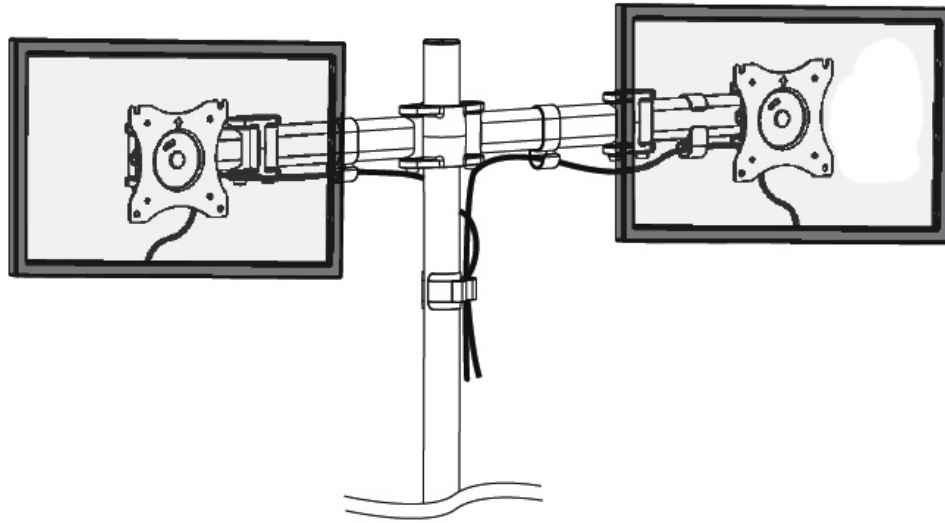

Figure 11
6. Arrange the cables through the cable management clips, see **Figure 11**.